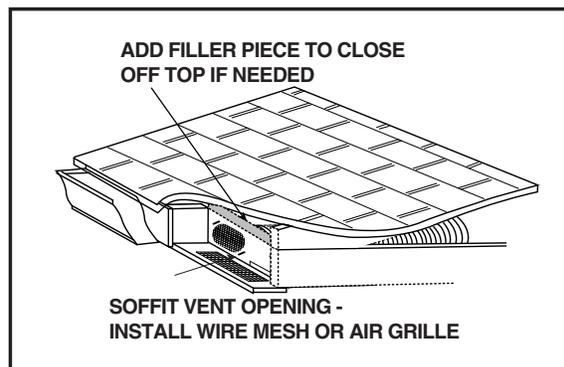

Figure 4. Installation Detail
4. Cut a rectangular opening of at least 25 square inches in the soffit between the roof trusses at the selected vent location. A 4” x 8” opening is recommended (See Figure 4).
7. Fill any space between the fitting and the roof surface with plywood or sheet metal to keep the soffit area free of insulation, as shown in Figure 4.